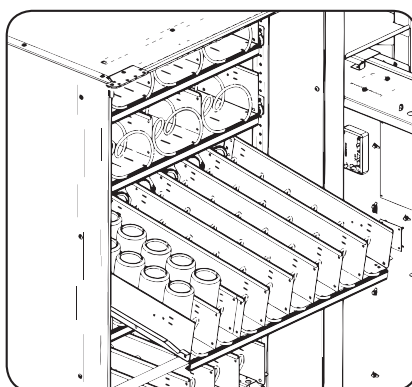

Figure 6.1 - Shelves loading
- Open the vending machine door (ref. 7.1 ACCESS TO MAINTENANCE AREA).
- Pull the shelf latch, located on the left, following which pull out the shelf up to the stop by firmly holding the shelf by its lower part. To facilitate loading the upper shelves are inclined when pulled out (fig. 6.1).